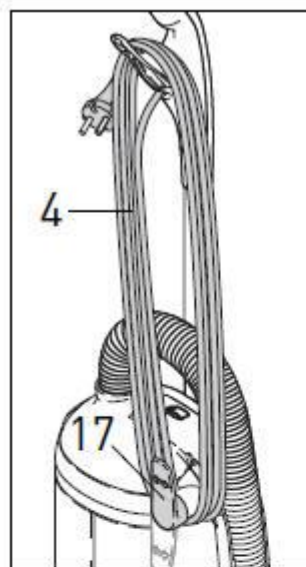

Figure 3
Install the attachment clip (21) to the handle assembly (5) using the included screw. Insert the crevice nozzle and upholstery nozzle into the clip - see figure 3
Starting The Machine - Figures 3, 4 & 5
1. With the power switch (3) in the OFF position, turn the cable hook (17) to the left or right to release the cable (4). Lift the cable off the upper cable hook - see figure 3.